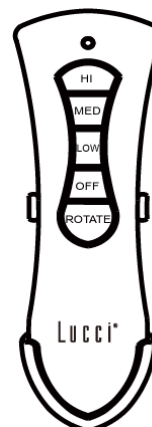

Fig. 14b
3. Slide the remote into the holder. (Fig. 14b).